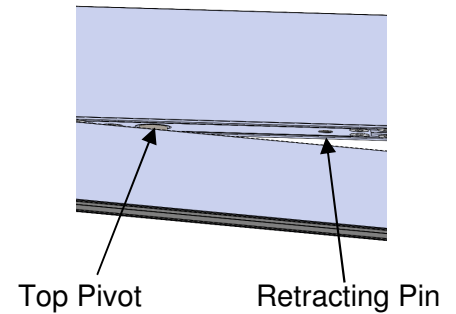

Figure 13:
1. Retract top pivot pin by turning retracting pin screw counterclockwise (Figure 13). Install washer & thrust bearing to spindle (Figure 15).
5. Align the two portions of top pivot and turn pin retracting screw clockwise (Figure 13).